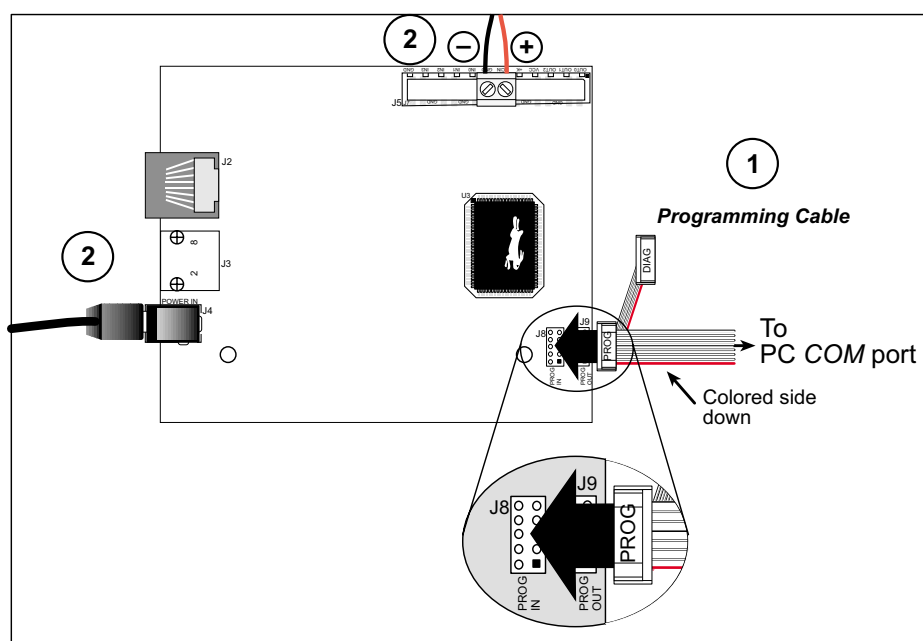

Figure C-1. RabbitLink Connections for Downloading Firmware
1. Connect the RabbitLink board to your PC as shown in Figure C-1 with the **PROG** connector on the programming cable connected to the **PROG IN** header of the RabbitLink board.